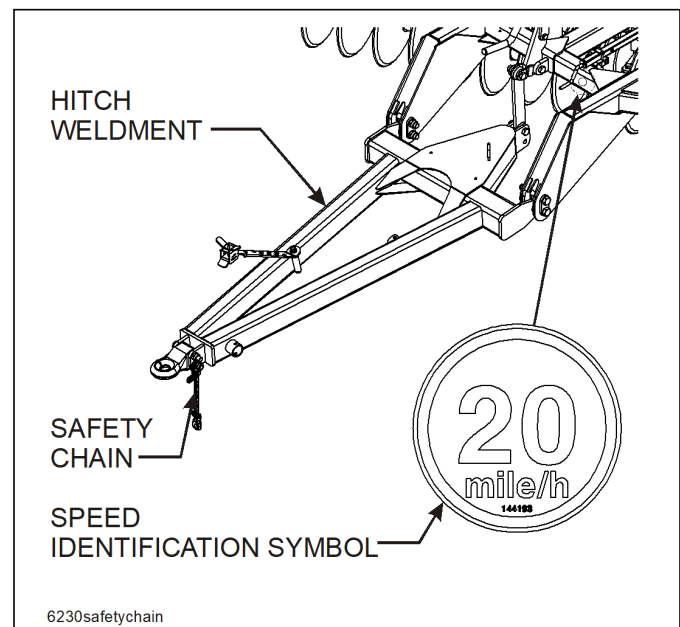

Figure 4-14: Hitch, Speed Identification Symbol, and Safety Chain
2. The 7410 should be transported only by tractor required for field operation. The implement weight should not exceed more than 1.5 times the tractor weight. Maximum transport speed for the 7410 is 20 mph for the implement and is designated on the speed identification symbol located on the front of the implement (See Figure 4-14.)
- b. Attach the safety chain to the tractor drawbar (See Figure 4-14.) Provide only enough slack in the chain for turning. Do not use an intermediate chain support as the attaching point for the chain on the tractor. Do not pull the implement by the safety chain.